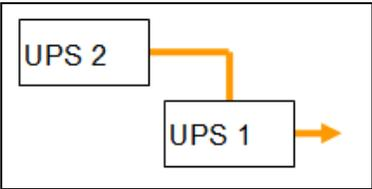

Figure 99. Hot Standby
- **Hot standby mode:** When the upstream UPS powers the load, the downstream UPS is on bypass (see Figure 99).